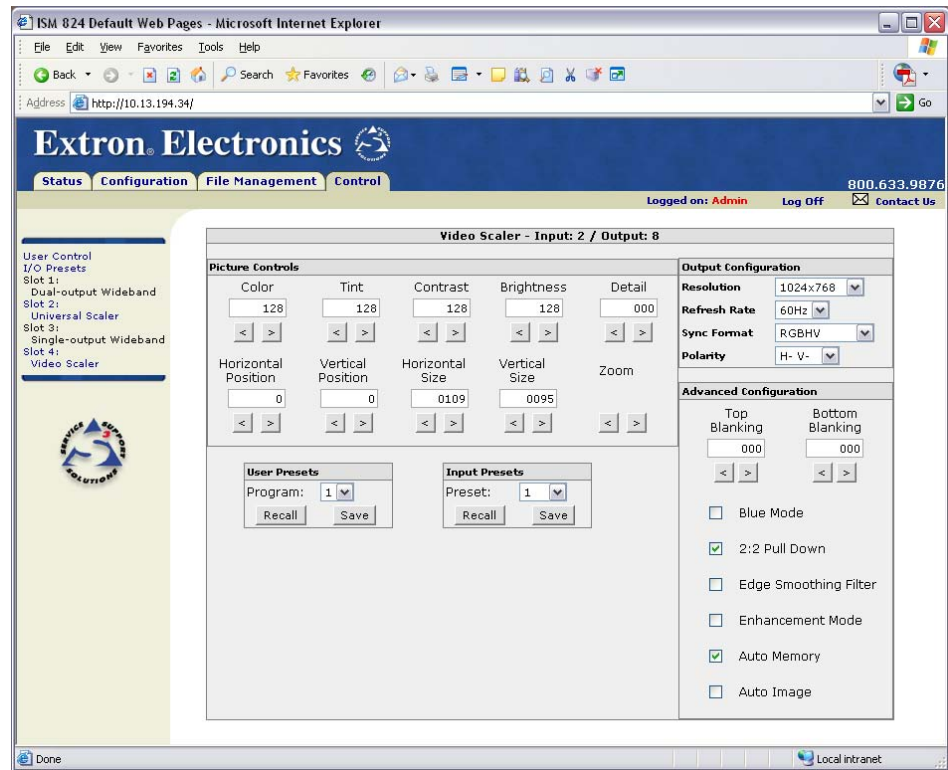

Figure 6-18 — Video Scaler output card configuration screen
1. Select either the User presets or Input presets drop down arrows as desired (see figure 6-18).
On the top of this page, the input number that is currently tied to the card's output tie is shown (see figure 6-18).